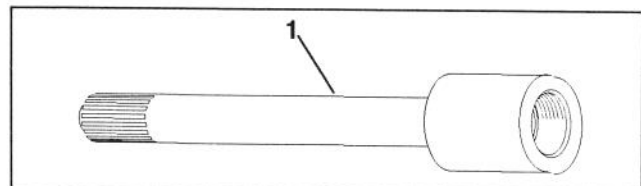

Figure 13
- Thread traction shaft (Fig. 13) (left hand thread) onto coupler output shaft. Do not tighten traction shaft at this time.
9. Tighten (2) capscrews and locknuts securing coupling to shaft.
10. Slide yoke end of drive shaft onto traction shaft spline (Fig. 13).
11. Tighten (2) capscrews and locknuts securing yoke to shaft.